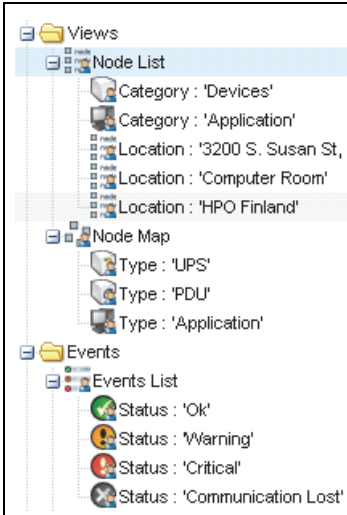

Figure 43. Views > Node List Example Hierarchy
- 1 Select a view in the **Views > Node** list, such as “Category: Devices” (see Figure 43).
- 1 Select a view in the **Views > Node** list, such as “Location: Computer Room” (see Figure 43).